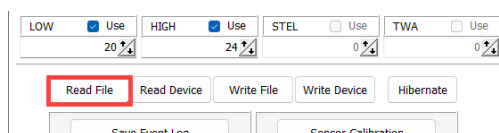

Figure 3-5: IR Connect - Read File
2. Click 'READ FILE' to select the configuration. See Figure 3-5.